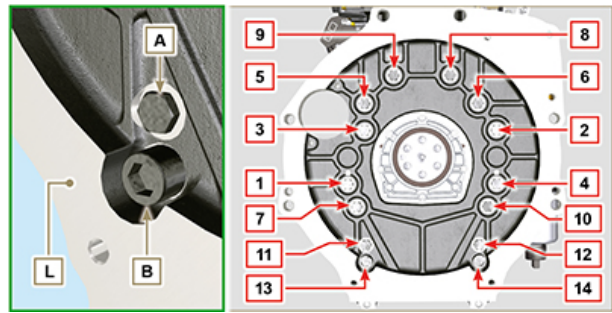

Fig. 11.61
2. Fasten housing or plate **L** by using capscrews **A** and strictly following the order shown in **Fig. 11.61** (tightening torque at **85 Nm**).